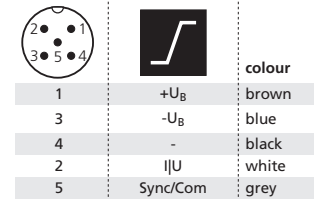

Fig. 1: Pin assignment with view onto sensor plug and colour coding of the microsonic connection cable
- Connect a connection cable to the M12 device plug, see fig. 1.